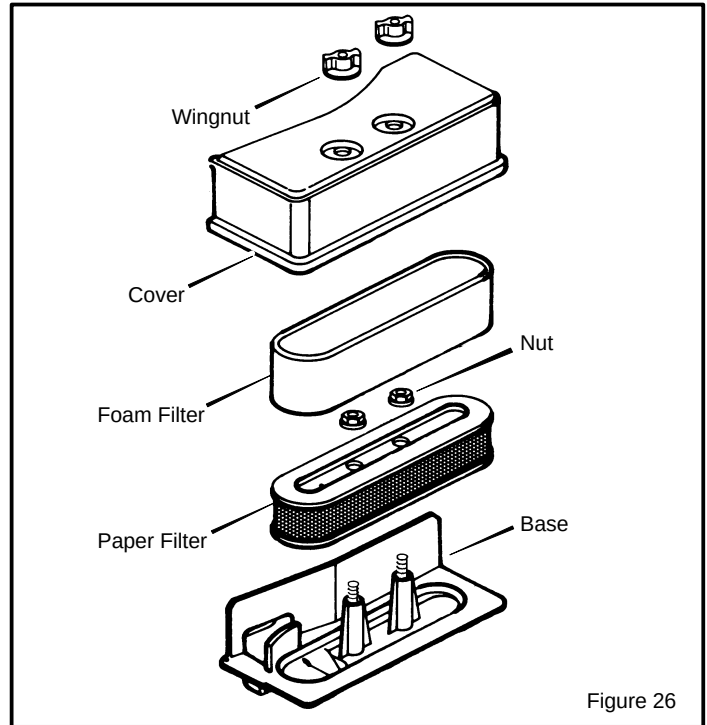

Figure 26
1. Remove the two **wingnuts** from the **cover** (Figure 26).